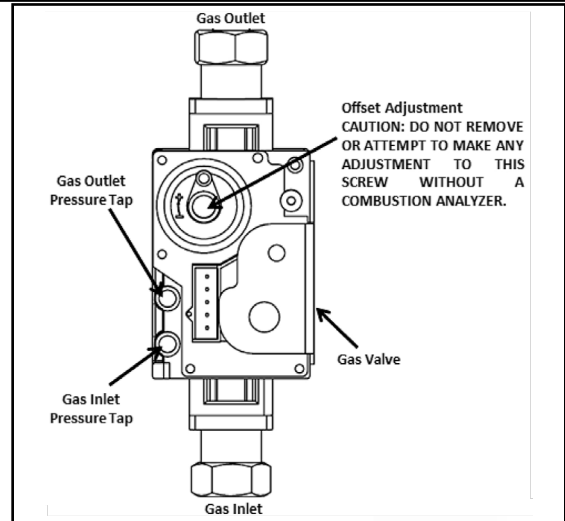

Figure 49 - Gas Valve Detail
4. The National Fuel Gas Code (NFPA 54) requires that a sediment trap (drip leg) be installed in the gas line on appliances not so equipped. The drip leg must be accessible, a minimum of 3" in length, and not subject to freezing conditions. See Figures 49 and 50.
5. A manual gas shut-off valve should be installed in the gas supply line close to the boiler. See Figures 49 and 50 for detail.